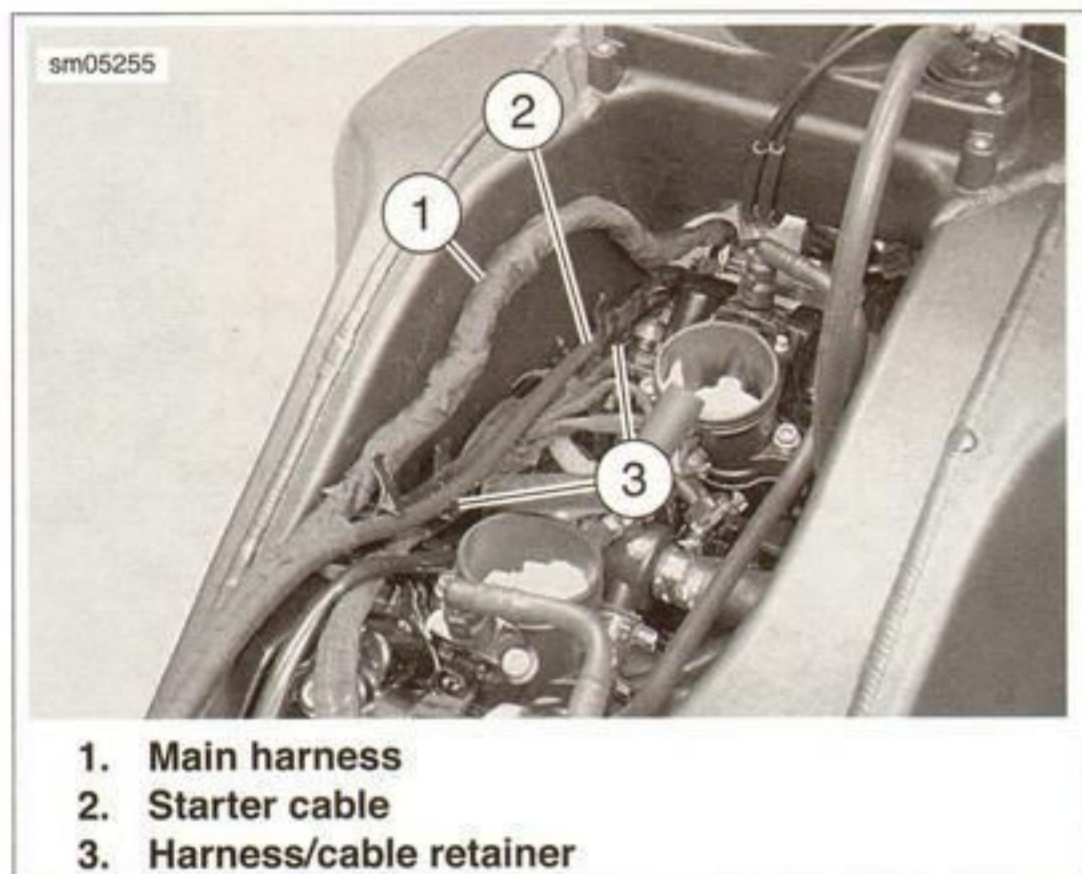

Figure 7-123. Harness Routing at Engine
2. See Figure 7-123. Pull harness (1) with starter cable (2) forward past engine.